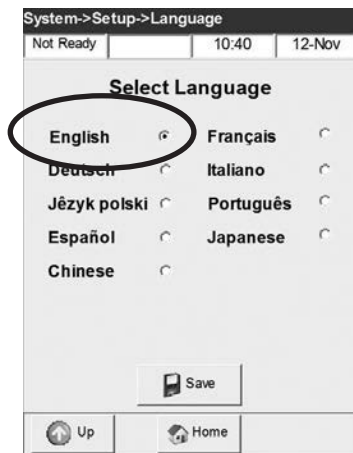

Fig. 3-50 Select Language
3. Select the desired language (Fig. 3-50).